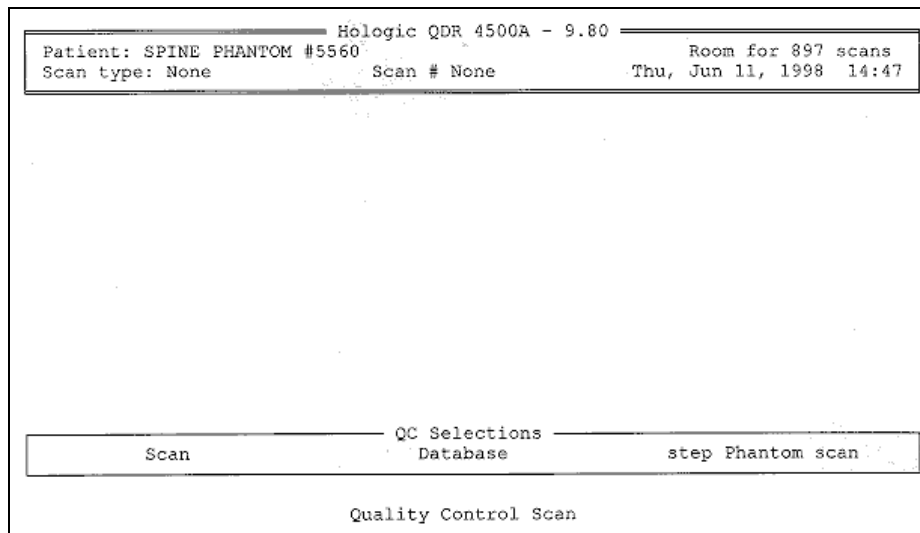

Figure 6-2. Spine phantom quality control
- At 'QC Selections' (Figure 6-2), highlight 'Scan' and press 'Enter' (or type 'S') to begin the Spine Phantom QC.